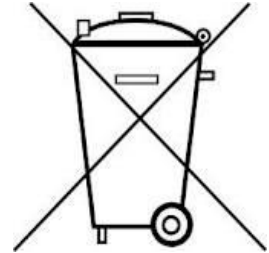

Fig. 1 Determination of speed of sound by measuring the time it takes for a sound pulse to cover a given distance
- Place the microphone probes in the Kundt's tube and set up the apparatus. (see Fig. 1)